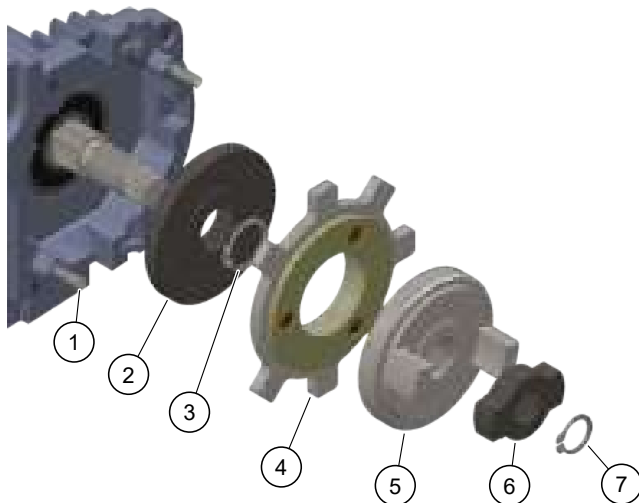
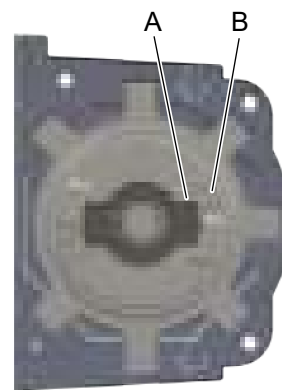

Figure 11. Brake Assembly
Figure 12. Brake Alignment
Disassemble the unit to access the brake components. Refer to Fig. 11 below, and remove the snap ring and the brake hub driver. For adjustment, hand tighten the brake hub to fully seat all components. Re-install the hub driver, making sure the hub driver pointer is inside the alignment zone as shown below in Fig. 12. The brake hub must remain tight during the alignment process for proper orientation.
For replacement, remove all existing brake parts shown in Fig. 11. Ensure all parts are clean, and all four springs are installed in the frame during reassembly. Carefully apply a thin coat of Molykote® 41 Extreme High Temperature Grease to the threads of the Brake Hub (item 5). Make sure no grease comes in contact with the friction surfaces. Follow the brake adjustment procedure outlined above after installing the remaining brake parts.